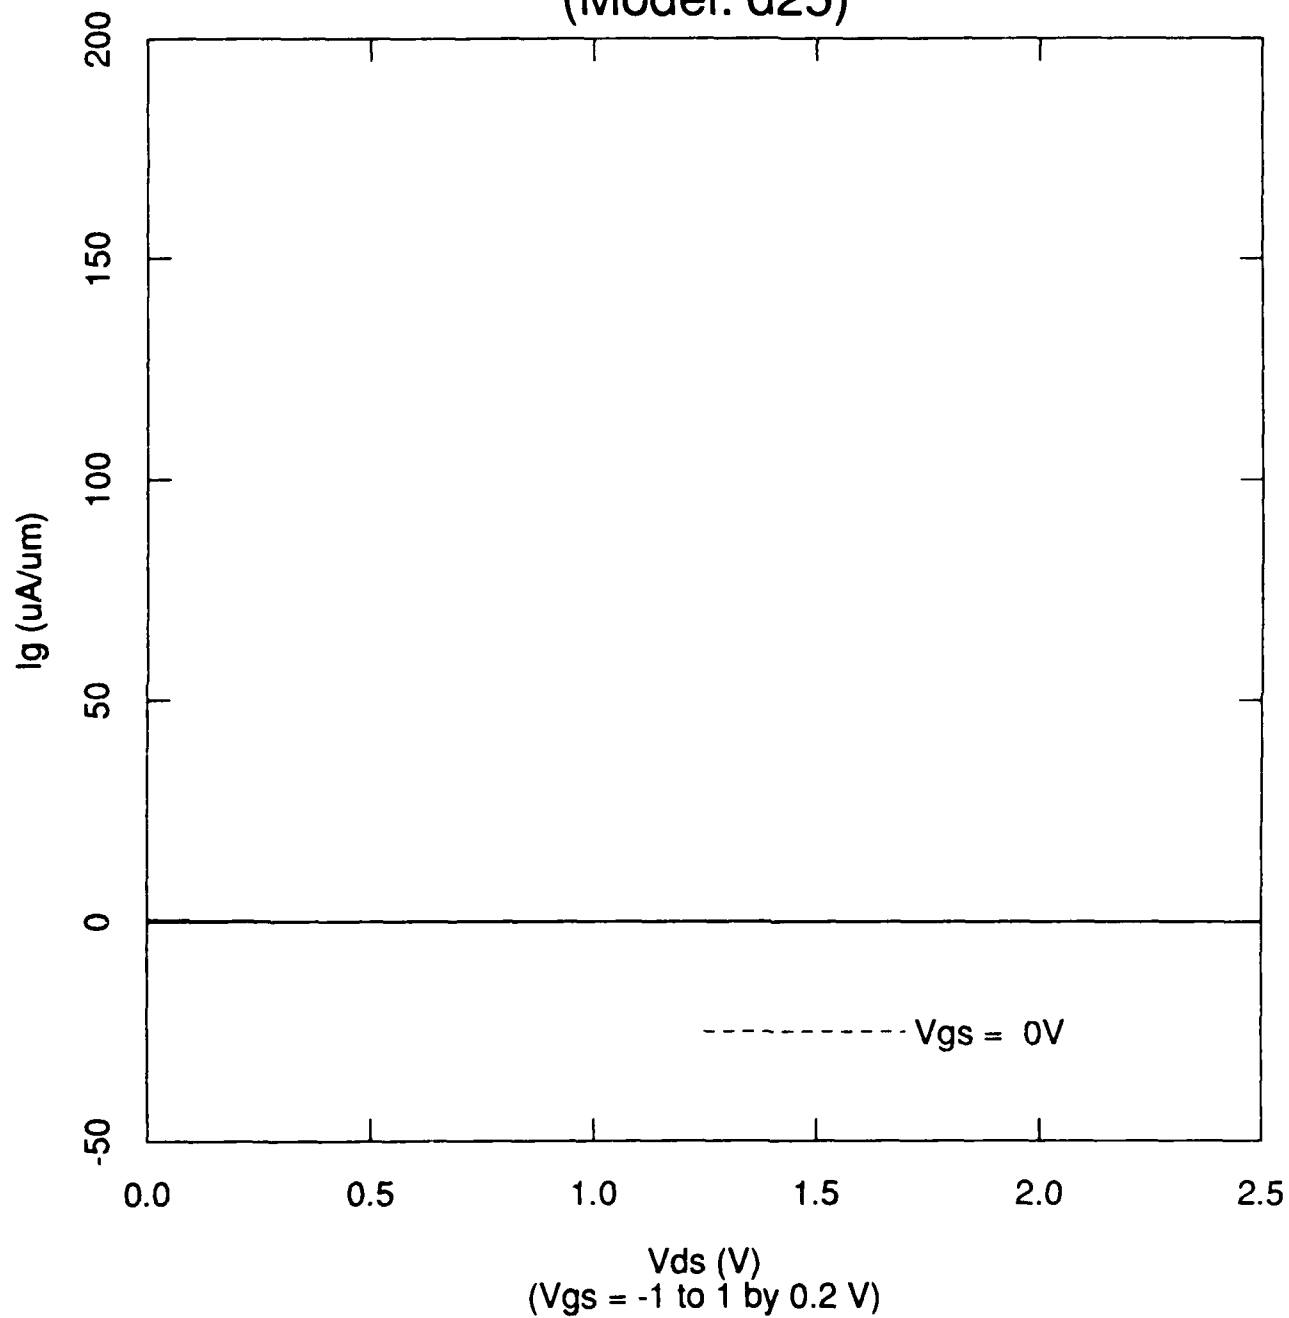

Figure 2. I_g vs. V_{ds} (V_{gs} stepped) for d25 DHFET Simulation at 25C.
- Figure 2. I_g vs. V_{ds} (V_{gs} stepped) for d25 DHFET Simulation at 25C.